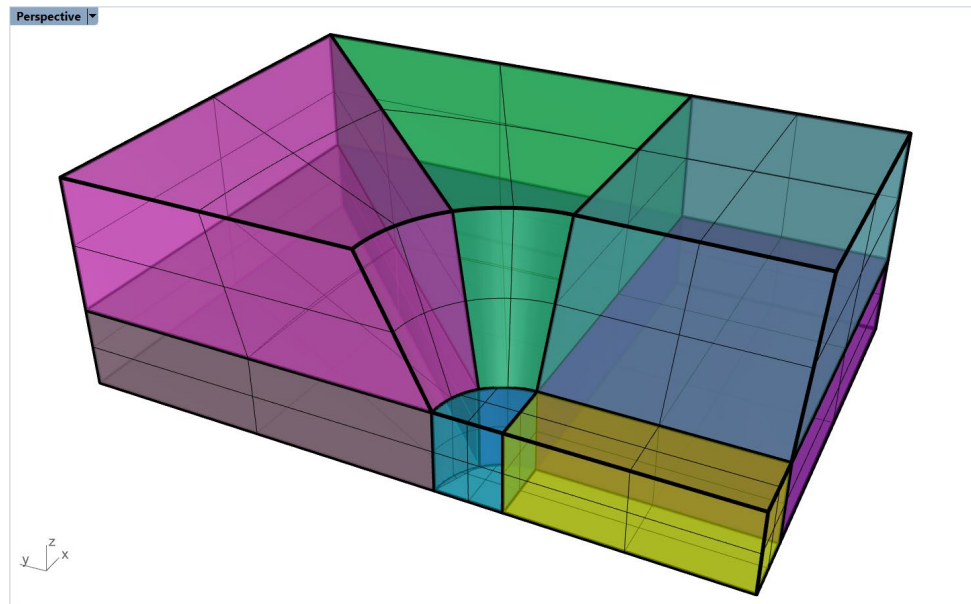

Figure 47: Solid blocks of the model (Ghosted view).
20. Show all blocks that were previously hidden with the **_Show** command. There should be eight solid blocks as in Figure 47.